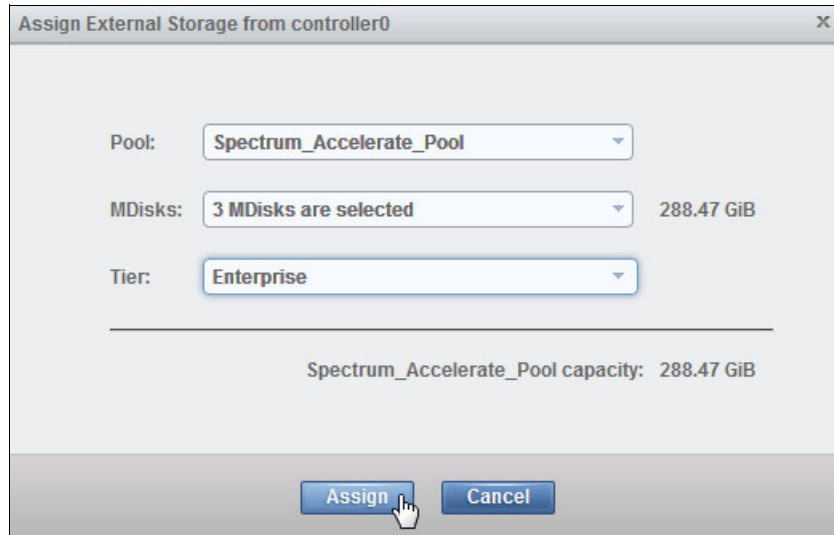

Figure 4-23 Assigning MDisks
9. Select the values for the Pool, MDisks, and Tier drop-down menus for the MDisks and click **Assign**, as shown in Figure 4-23.